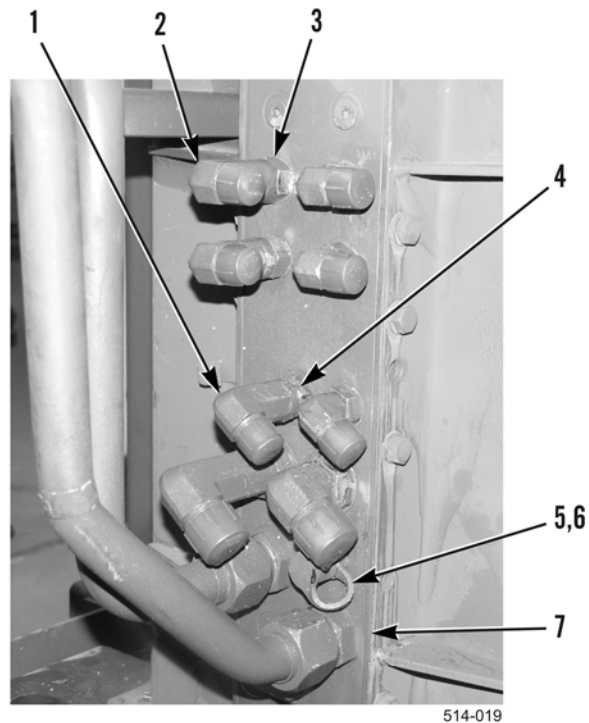

Figure 8. HEMTT Reposition Angle Fittings.
15. Loosen four nuts (Figure 8, Item 4) on lower angle fittings (Figure 8, Item 1) and move angle fittings clockwise 45°.
16. If required, remove pressure test port (Figure 8, Item 5) and O-ring (Figure 8, Item 6) from hydraulic control box (Figure 8, Item 7). Discard O-ring.
17. Tighten four nuts (Figure 8, Item 4).
18. If removed, install new O-ring (Figure 8, Item 6) and pressure test port (Figure 8, Item 5) on hydraulic control box (Figure 8, Item 7).
19. Loosen four nuts (Figure 8, Item 3) on upper angle fittings (Figure 8, Item 2) and move angle fittings counter-clockwise 30°. Tighten four nuts.